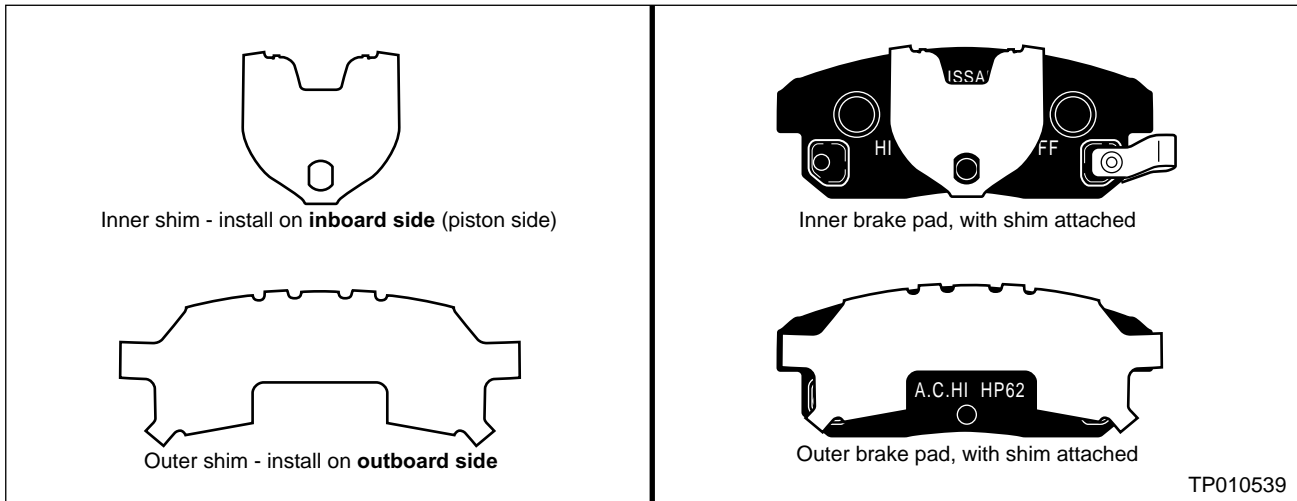

Figure 5
- Be sure to put the inner and outer shims in the correct location (see Figure 5).